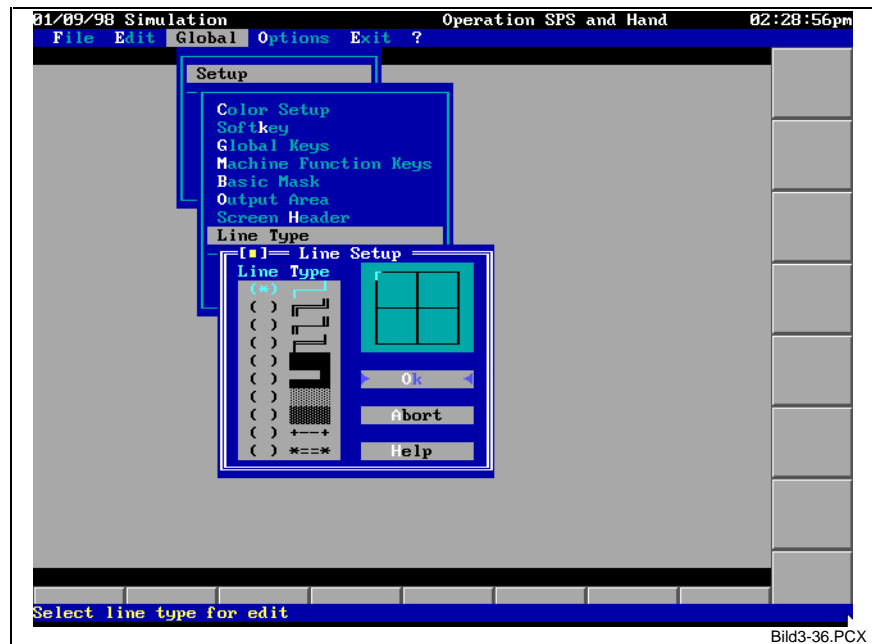

Fig. 3-36: Modifying line types
**Functionality** All 10 available line types (swift line drawing using the <Shift>+Cursor-keys, see pages 3-28 ff and 3-29 ff) can be edited. An editing window is available that contains a frame and a cross which are drawn in the characters of the selected line type (see Fig. 3-36). This representation contains all characters of the line type. The cursor keys can be used for selecting and modifying the individual line characters. Identical characters are jointly marked and modified (the vertical lines in the example of Fig. 3-36). The characters can be entered either directly via the keyboard or via a selection window that contains all ASCII characters of the PC (using the <Alt>+<A>, <Space> key key combination or double clicking the mouse button; see Fig. 3-24).